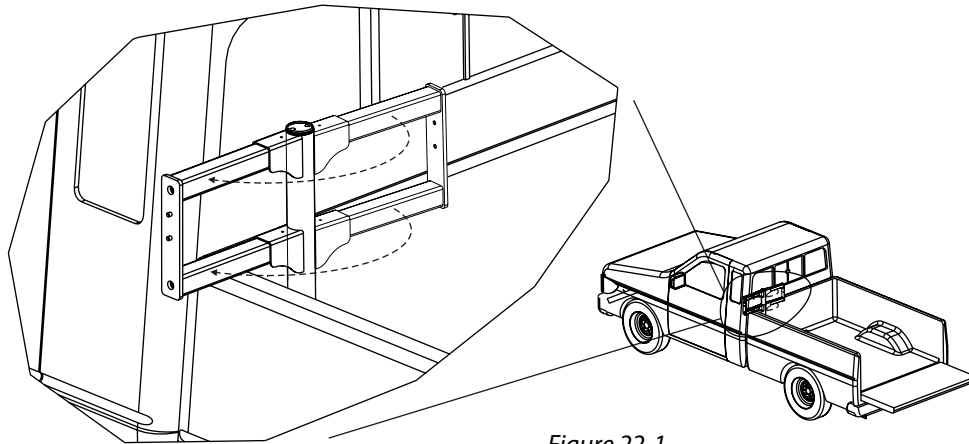

Figure 22-1
1. Rotate the vertical post outside the truck. *[Figure 22-1]*